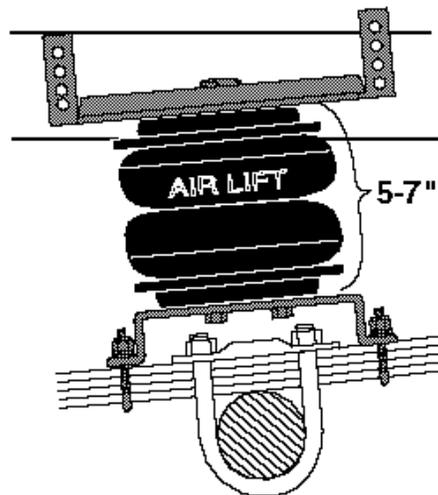

fig. 6
4. Align the assembly vertically and horizontally. The distances between points X and Y (Figures 6 and 7) should be approximately equal, between 5 and 7 at normal ride height.